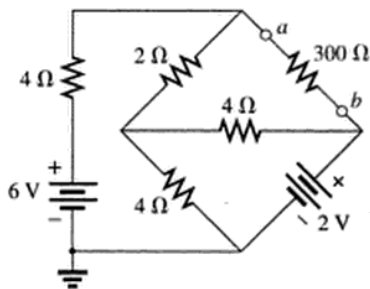

FIG. 9.138
- *20. For the network of Fig. 9.138, find the Thévenin equivalent circuit for the network external to the $300\ \Omega$ resistor.
- *28. Find the Norton equivalent circuit for the network external to the $300\ \Omega$ resistor in Fig. 9.138.